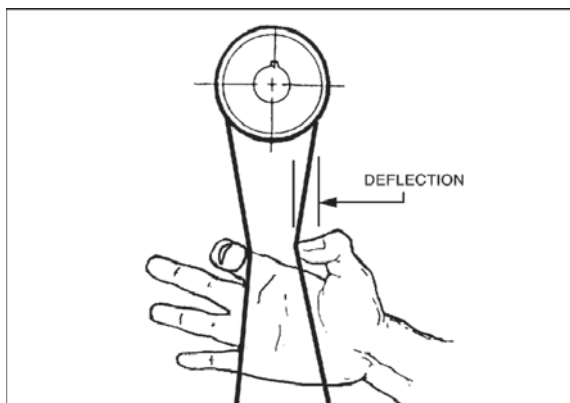

Figure 12
3. Proper drive belt tension is achieved when there is a small amount of deflection in the drive belt midway between the pulleys, when using moderate finger pressure (Figure 12).